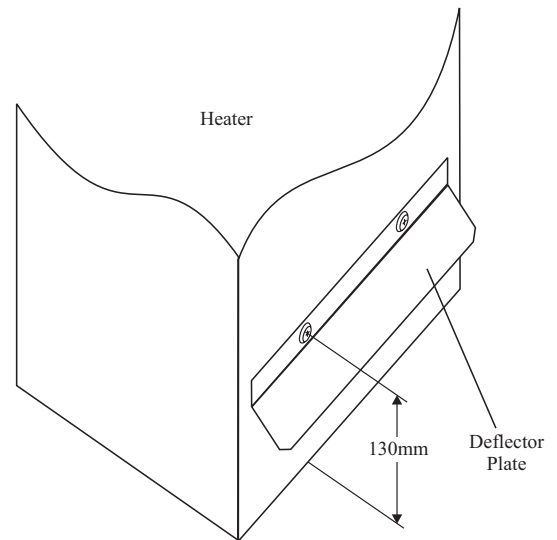

Fig. 3
- 5.4.2 The deflector plate prevents spillage from the draught diverter in the event of a leak between the air heater and the base plenum and MUST be fitted as shown in fig 3 using the screws provided.